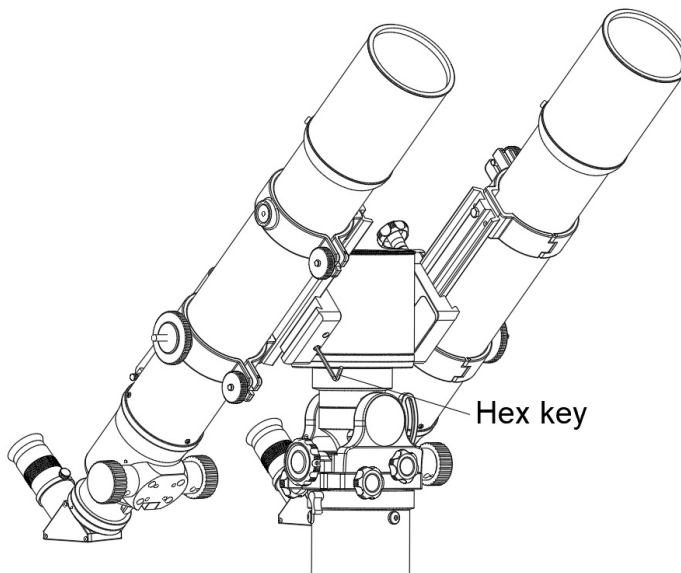

Fig. 11
1. Use a 3mm hex key to adjust and lock the two screws on the side of the primary saddle, ensuring that the two telescopes are aligned in the same direction. Fig.11